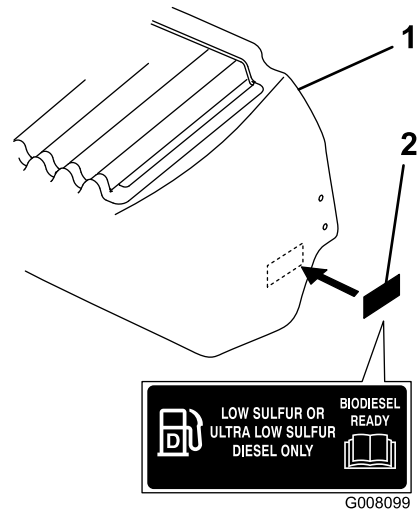

Figure 13
3. Install a low sulfur decal on each side of the engine hood. See Figure 13 for the correct position.